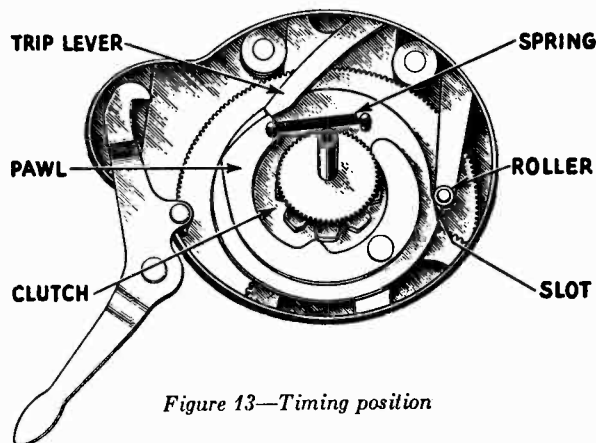

Figure 13—Timing position
- (a) Allow the mechanism to operate until the slide Figure 17 is in its extreme forwarding position. When this setting is reached the straight side of the cam, Figure 17, will be parallel with the side of the slide. Check the position of the trip lever and roller at this time to see that they are approximately as shown in Figure 13. If the various parts are not in their proper relation, the mechanism should be retimed.
- (d) Lower the pawl carrier into mesh with the gears so that the trip lever is touching the end of the pawl as shown in Figure 13, when the cable lever roller is engaged in the slot on the side of the pawl carrier as shown.